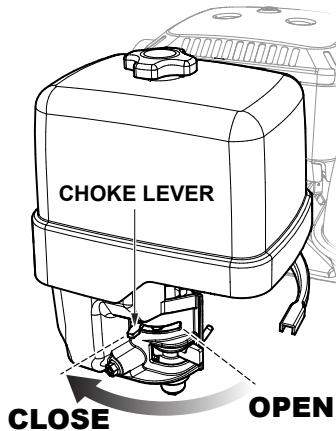

Figure 19. Choke Lever
- Place the choke lever (Figure 19) in the **CLOSED** position.
- If the engine has started, slowly return the choke lever (Figure 19) to the **OPEN** position. If the engine has not started, repeat steps 1 through 5.